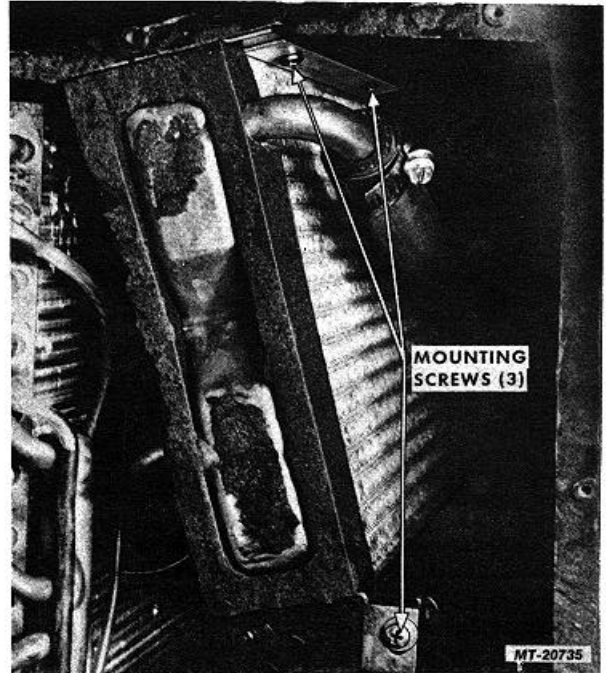

Fig. 51 Heater Core Mounting Screws
7. Remove heater core mounting screws (Fig. 51).